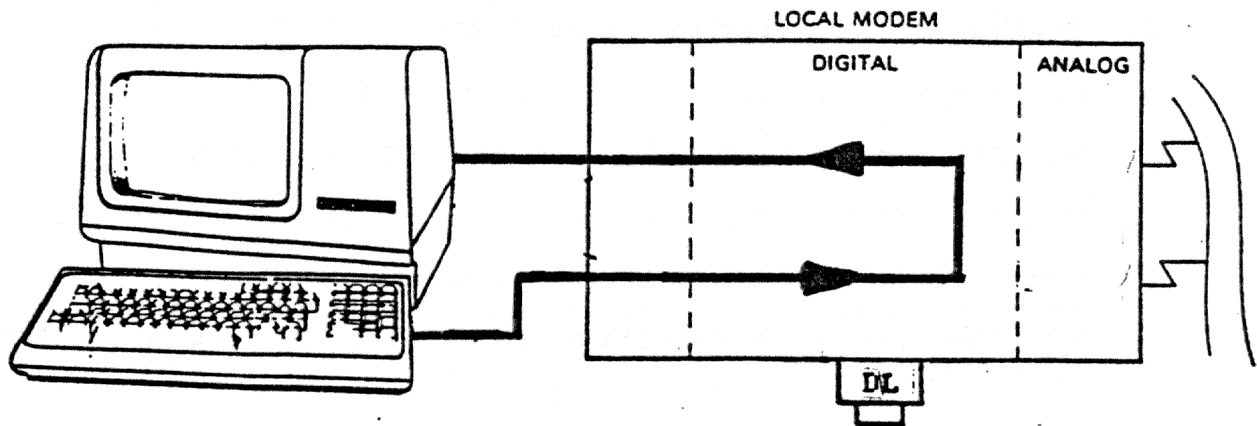

Figure 4-5 Local Digital Loopback
4.3.3 Local Digital Loopback Tests (Figure 4-5)